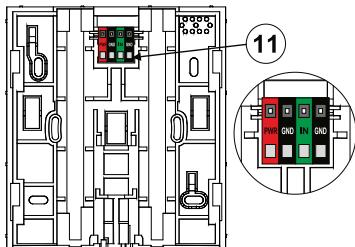

Figure 4: 11 – terminals of an external power supply and an external magnetic contact
2. Mount the back of the keypad to a flat wall using 4 screws. To connect an external power supply or magnetic contact, use the terminals on the back of the keypad, see Figure 4. See the connection description in the paragraphs Alternative Power Supply and Installation of a magnetic contact.
6. First attach the bottom edge of the keypad to the mounting pad (rear part) of housing (align the bottom sides). Then slide the keypad downwards, until you hear the click of the tab (10). This will secure the keypad against falling out of the installation pad. Then turn the locking mechanism (9) clockwise 90° to the position where the groove points to the symbol. This locks the keypad in place and engages the tamper contact.